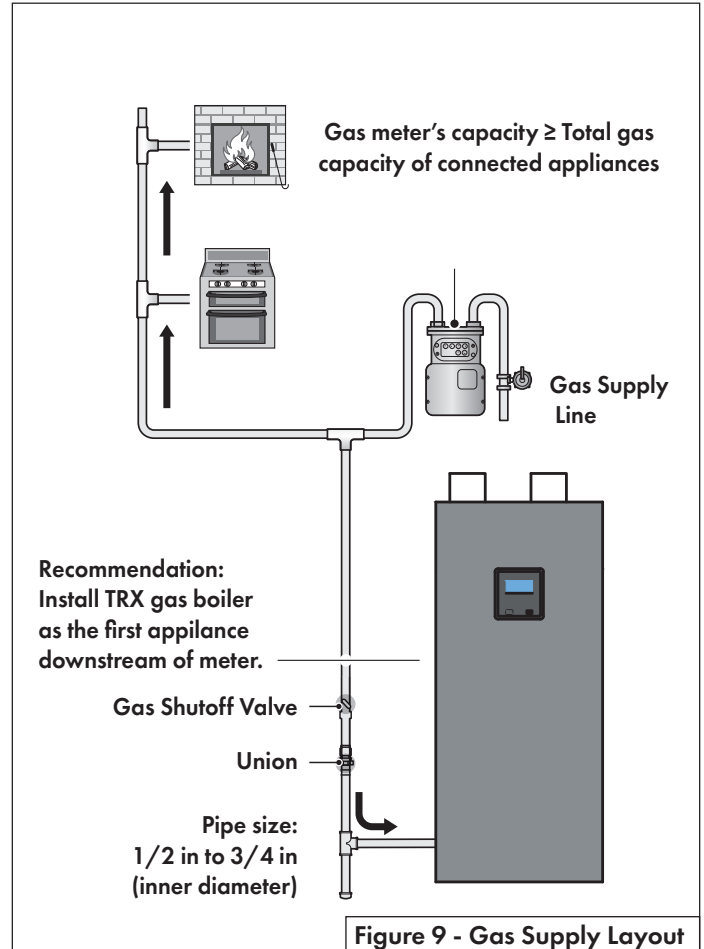

Figure 9 - Gas Supply Layout
5. A manual gas shut-off valve should be installed in the gas supply line close to the boiler. See Figure 9.